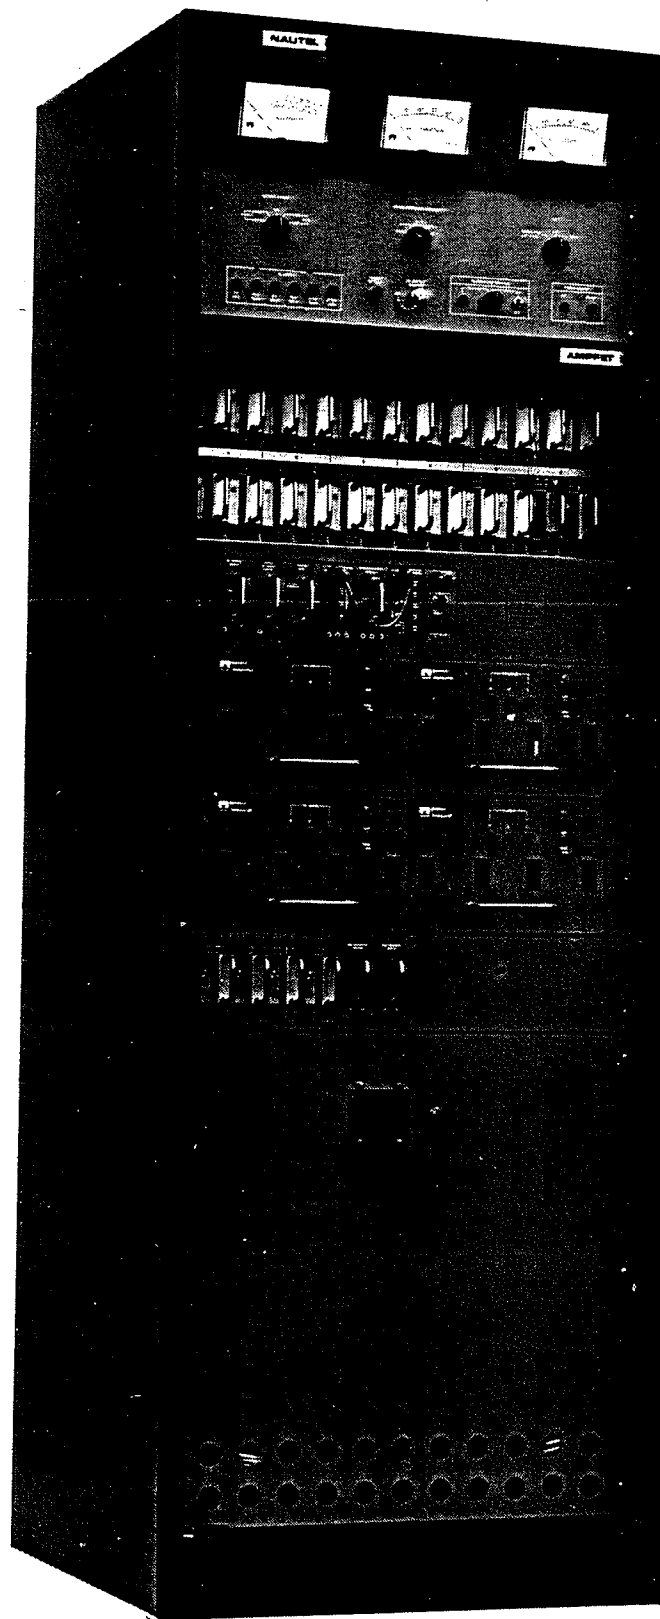

Figure 1-1 AMPFET 5 (3-Preset Power Levels) Transmitter
1.5 The subject transmitter is housed in a single cabinet, see figure 1-1. The control/monitor panel, with full metering facilities, is mounted at the top of the transmitter cabinet with the rf output filter located directly behind. The front plug-in power amplifier modules, modulator modules, rf driver and modulator driver modules, rectifier/regulator modules and system monitoring modules are directly under the control panel. A hinged door covers these modules during normal operation while still providing full accessibility for module removal. Two removable back panels, which are not normally opened, carry the cooling air fans. The power transformer is located in the bottom of the transmitter cabinet. Remote control and monitoring wiring enters the transmitter cabinet through cable entry holes in the bottom/rear of the cabinet. Refer to figure FO-14 for illustrations that show the location of the assemblies and plug-in modules.